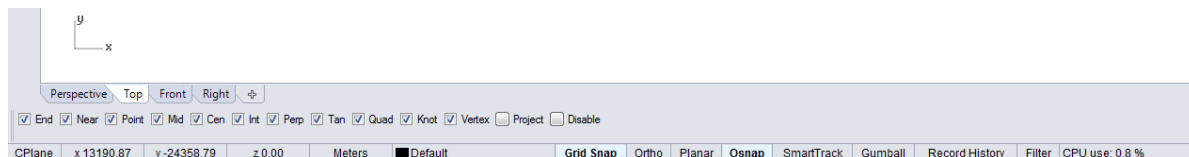

Figure 114: Turning on osnap as well as End, Near, Point, Mid & Cen
11. Make sure that **Object Snap** is on by clicking over the word **Osnap** at the **bottom** of the screen, and make sure that **Near**, **Point**, **Mid** and **Cen** are **checked** (Figure 114). This ensures that while tracing over contour lines, Polylines can snap to existing points.